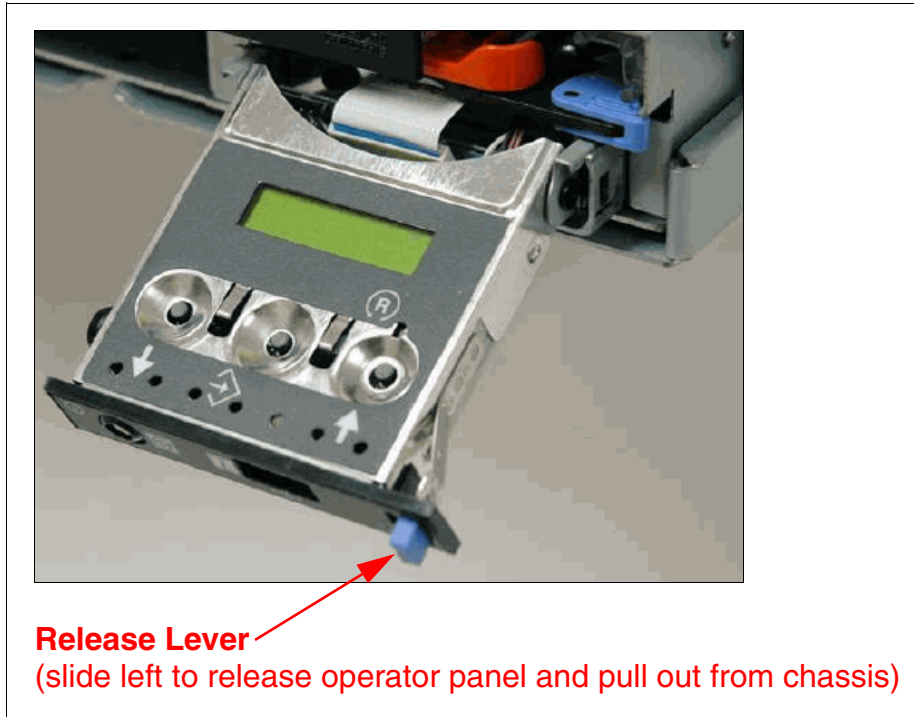

Figure 4-6 Operator panel is pulled out from the chassis
- ▶ By pulling it out to access the switches and view the LCD display. Figure 4-6 shows that the operator panel on a Power 710 and 730 is pulled out.